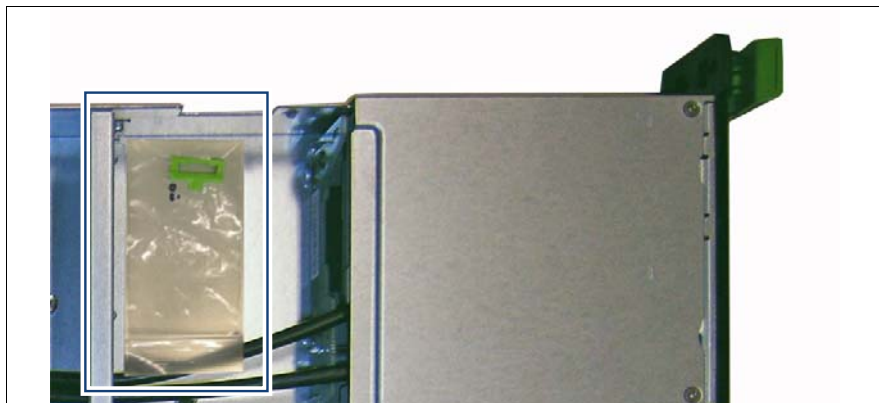

Figure 155: Example ODD latch in a package
- ▶ Remove the ODD latch from its package (see figure 155) or
- ▶ Store the ODD latch in a package (see figure 155) or